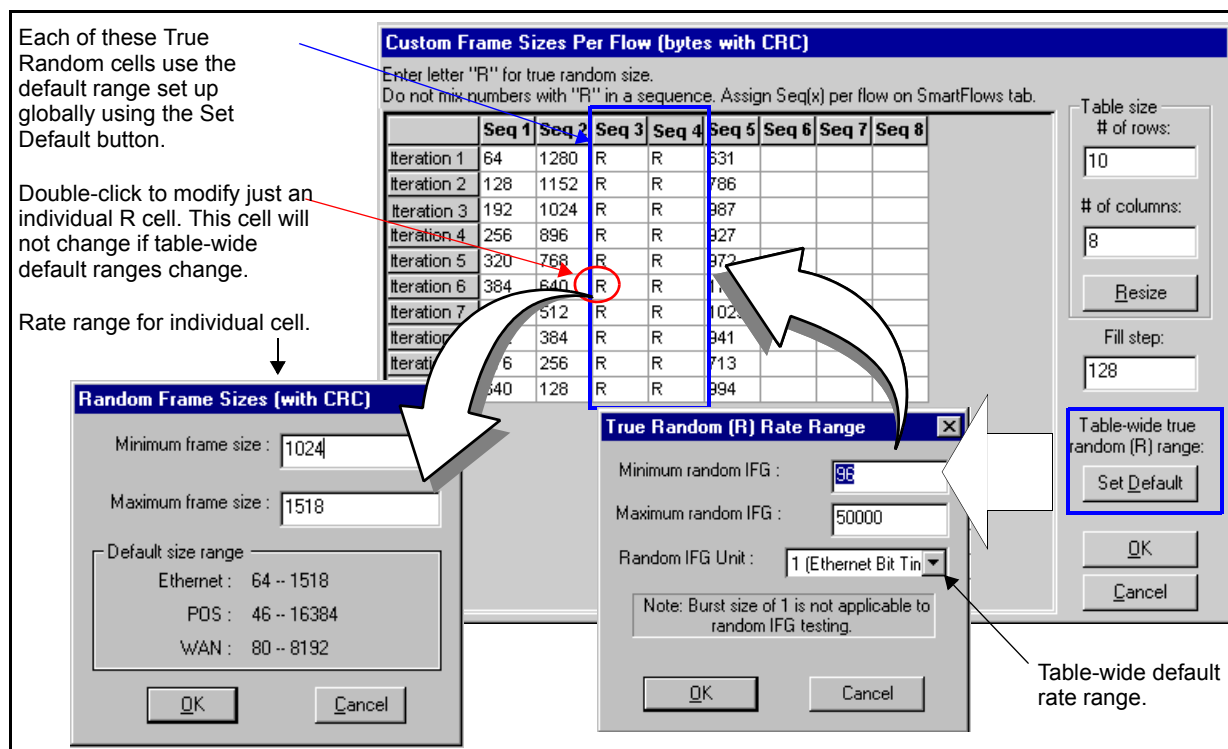

Figure 8-26. True Random (R) Table-wide Default Rate Ranges vs. Individual Cell Rate Ranges
- A comparison of these two ranges is shown in Figure 8-26.